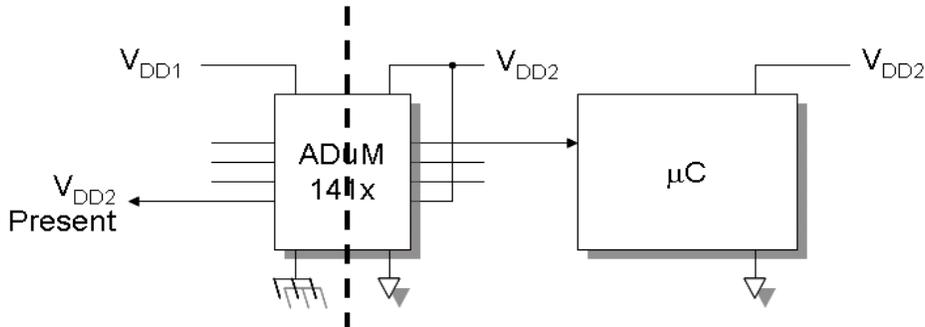

Figure 5 – ADuM141x Implemented with Power Present Indicator
3) As part of the *iCoupler* architecture, each side of the part must know when the corresponding data channels are active across the isolation barrier. This is required to allow the part to implement a default output state. It can be used as a cross-isolation “Power Present” signal as shown in Figure 5. When V_{DD2} is off, the ADuM141x *iCoupler* isolator places any outputs on Side 1 to LOW. When power is restored to V_{DD2} , the input tied to HIGH (V_{DD2}) will be transmitted and the output on Side 1 goes HIGH.